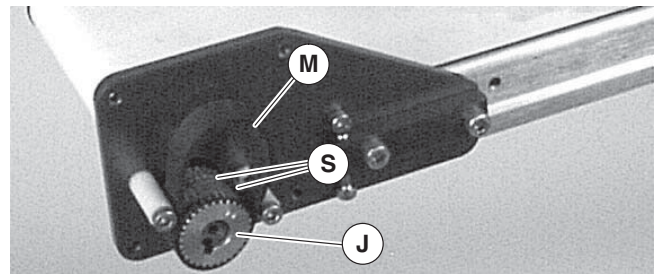

Figure 12
4. Remove old timing belt (Figure 12, item M).